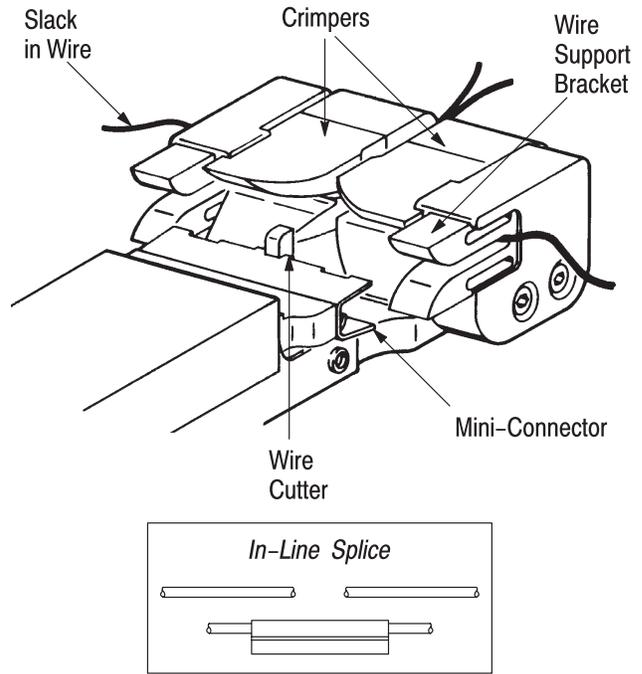

Figure 3
2. Refer to Figure 3, and insert the wires as follows: